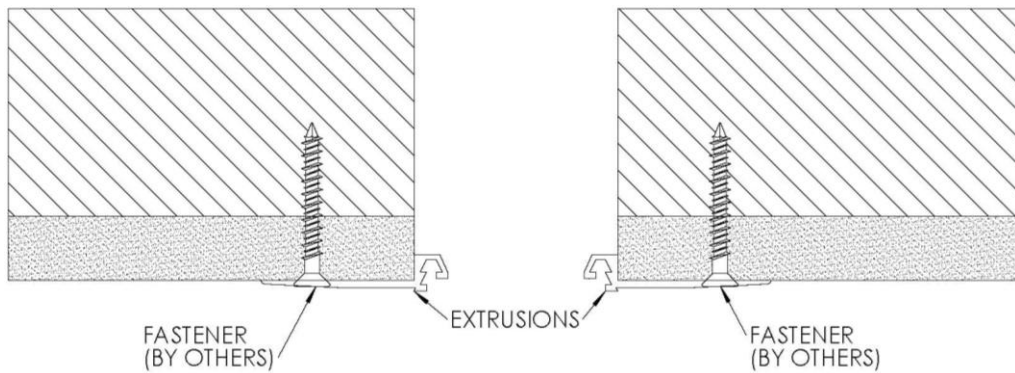

FIGURE 1
1. Position aluminum extrusions in the expansion joint as shown and attach with appropriate fasteners (by others) for the substrate. 18" on center (stagger seams, as necessary). **See Figure 1**